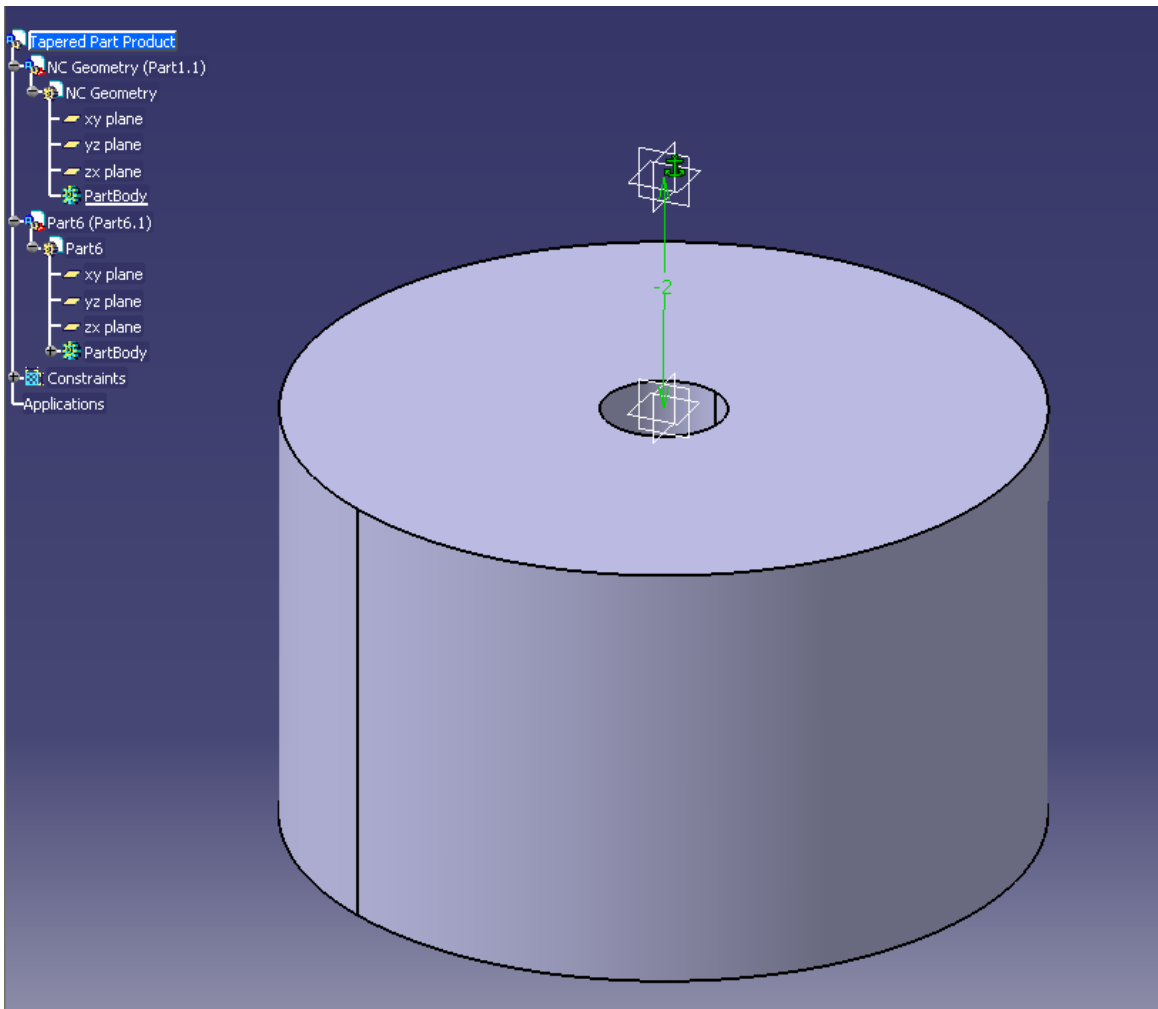

Figure 2. Location of lathe chuck in the product file
- iv. Use constraints to position the chuck 2" in the negative Z direction see figure 2 as an example. Use the offset constraint with the XY plane in NC Geometry and the XY plane for the chuck.